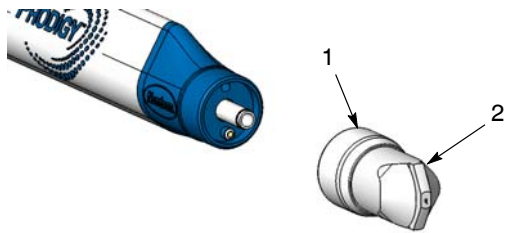

Figure 21 Removing Nozzle
1. See Figure 21. Remove the retaining nut (1) and nozzle (2).
4. See Figure 21. Remove the nozzle from the spray gun to prevent damaging it while you are working.
9. See Figure 21. Install the nozzle (2) and tighten the retaining nut (1).